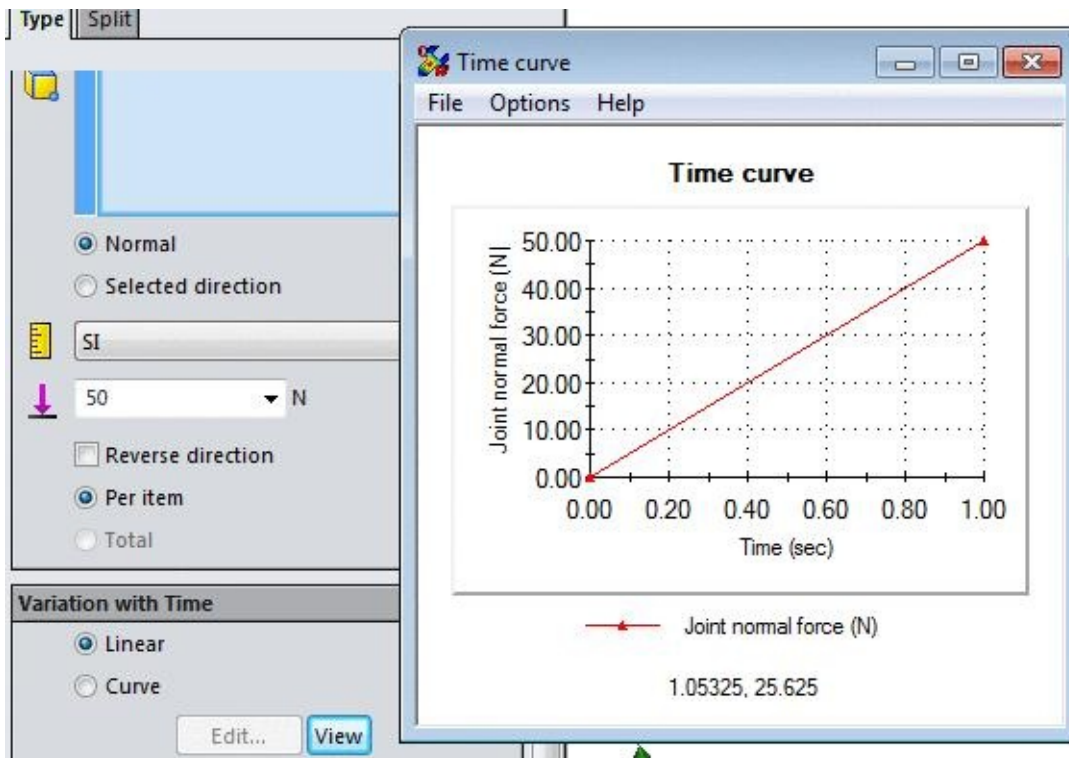

Figure-6. Time curve for linear variation
- Note that **Variation with Time** rollout is added in the PropertyManager and two radio buttons are displayed named, **Linear** and **Curve**. On selecting the **Linear** radio button, the force will gradually increase till it reaches to the specified force value within the **1** second of time span; refer to Figure-6.